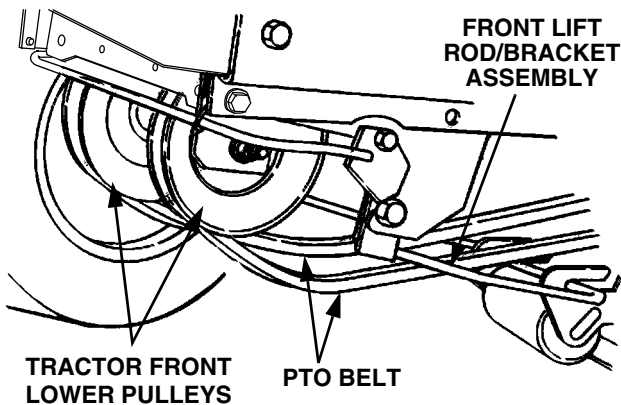

Figure 43
6. Pass the PTO belt downward, inside the tractor frame, until the belt is below the two tractor front lower pulleys and pull the belt clear of the tractor (See Figure 43).